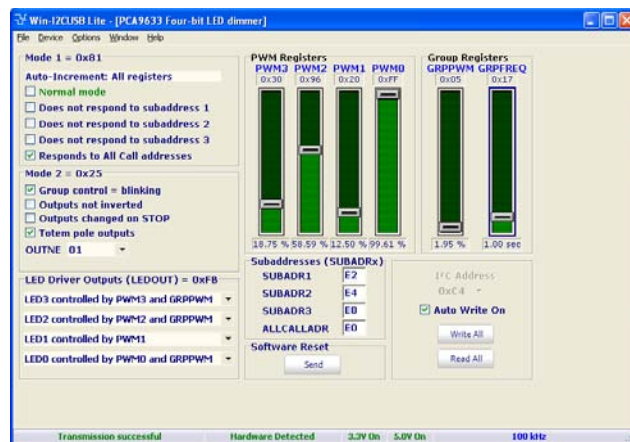

Fig 6. Example of short blink every second
4. For example, set the GRPPWM to 0x05 (1.95 % duty cycle) and the GRPFREQ to 0x17 (1 second) for a short blink every second (see Figure 6).